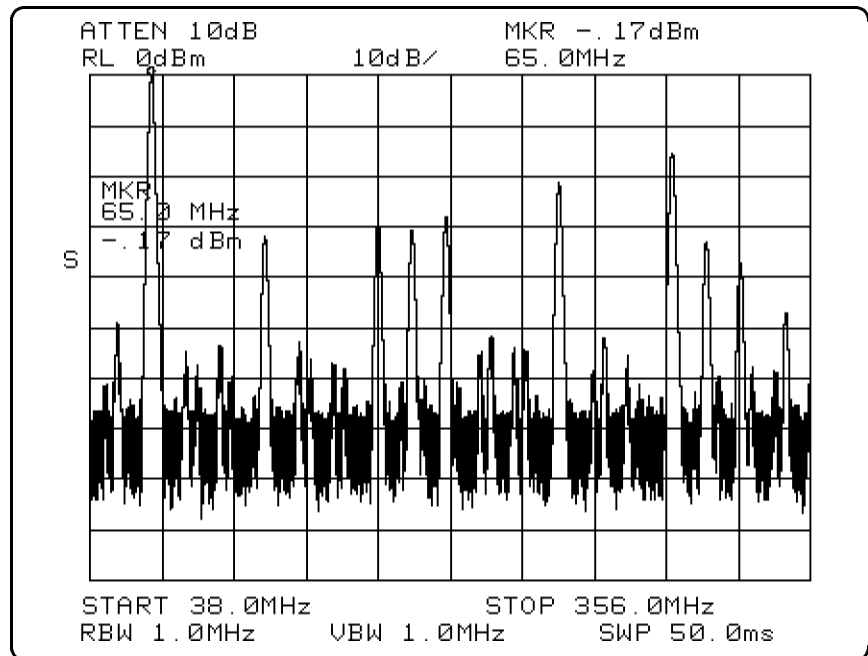

Figure 2-10.
2. Make sure that the spurious signals output from the device under test are within the frequency and power handling capabilities of the spectrum analyzer. Figure 2-10 shows an example of a typical spectrum analyzer display of a general spurious measurement.